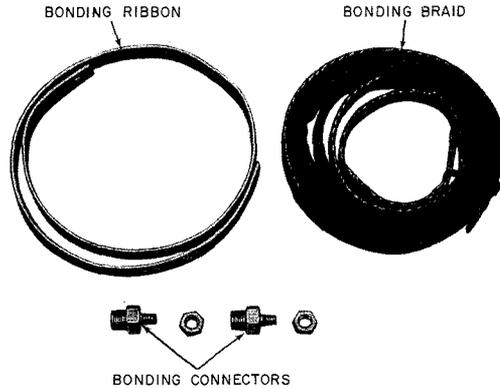

Fig. 10—Bonding Kit
- (a) **Bonding Kit D-180575 or D-180678 (Fig. 10):** Consists of bonding connectors, bonding braid, and bonding ribbon. The D-180575 bonding kit should be used with the standard A length set of covers. The D-180678 bonding kit